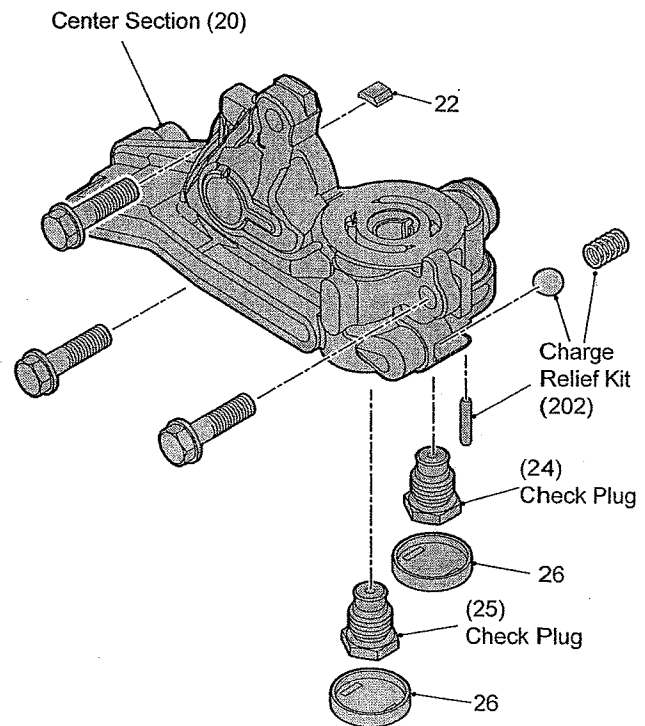

Figure 22, Center Section Kit (201)
Refer to Figure 22
1. Remove the bypass plate (22) from the center section.
2. Remove the plug seals (26) and discard. Refer to figure 22, on page 31.